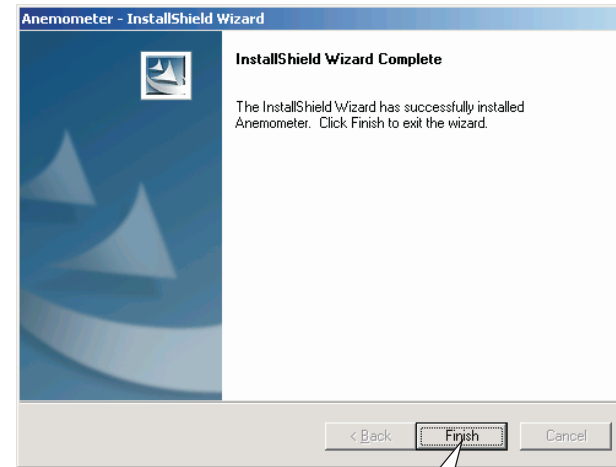

Figure 4
- Click "INSTALL" to install the program in your hard disk ,then showing the interface as below and show in figure4: